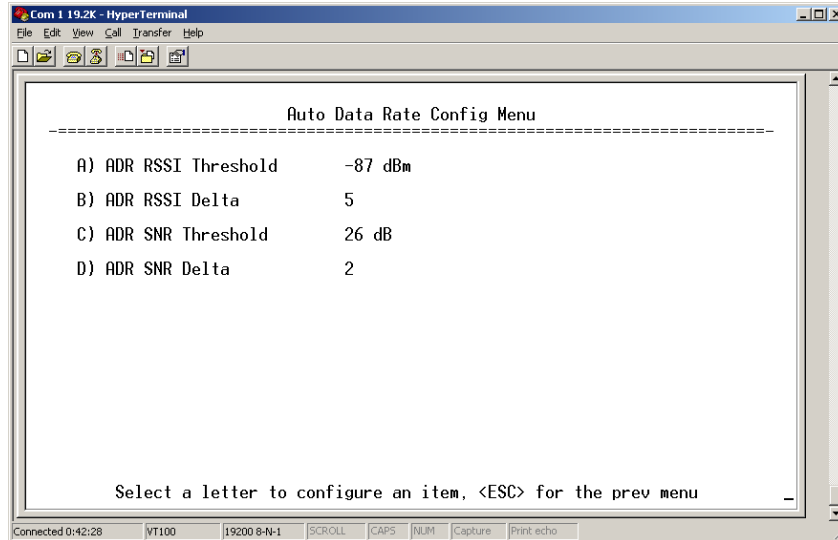

Figure 3-22. Auto Data Rate Submenu
- **Auto Data Rate Configuration**—This selection brings up a submenu as shown in Figure 3-22. For the settings in this submenu to have any effect, the Data Rate menu item (Page 53) must be set to **AUTO**.
The Auto Data Rate Configuration submenu consists of two threshold settings, each accompanied by a “delta” (amount of change) setting. Using the example of Figure 3-22, assume the current RSSI is -87 dBm. An RSSI reduction of more than 5 dBm (more negative RSSI number) would cause a data rate change from high speed to standard speed. Once the data speed has changed to standard speed, an RSSI *increase* to the level of -82 dBm would be required for the radio to switch back to high speed. This provides an operational “window” or hysteresis range over which the data speed stays constant despite minor changes in signal strength.
The SNR (signal-to-noise ratio) threshold and delta operate in the same manner described above, with the exception that the units are expressed in relative dB instead of dBm. In the example of Figure 3-22, a drop of 2 dB from a level of 26 dB would result in a data rate change from high speed to standard speed. For the radio to return to high speed, the SNR would need to increase to 28 dB. (*See Glossary for definition of SNR.*)
Figure 3-22 shows the default values for RSSI and SNR parameters but these may be changed to optimize performance in your environment. In properly designed systems, experience has shown that RSSI levels between -50 dBm and -90 dBm provide reliable operation, provided the signal-to-noise ratio is 17 dB or above. Tailoring the thresholds with these baseline values in mind, can provide improved performance in your system.